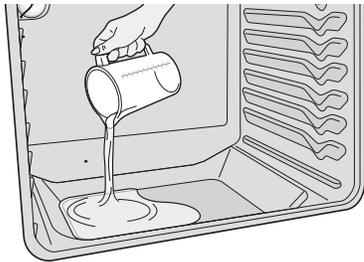

Figure 25: Pour water onto the oven bottom
3. Pour 8 oz (235 ml) of distilled or filtered water onto the oven bottom (Figure 25). Close the oven door.